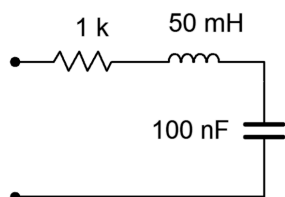

Figure 2.3
5. Determine the impedance of the circuit of Figure 2.3 for a 1 kHz sine.
6. Determine the impedance of the circuit of Figure 2.3 for a 500 Hz sine.